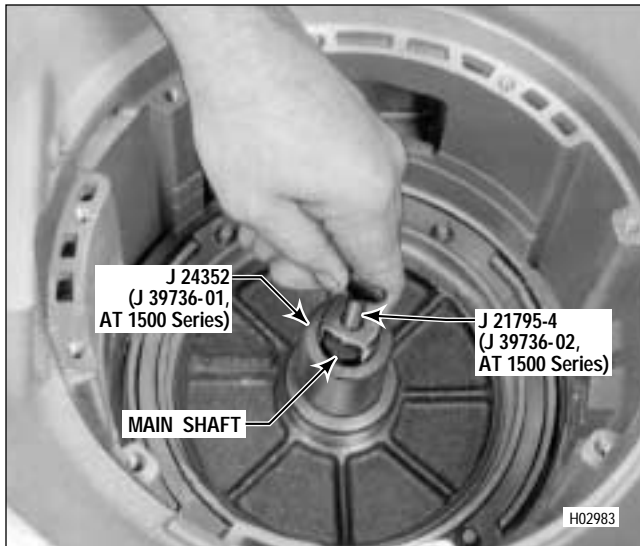

Figure 7-12. Installing Sun Gear Shaft Retainer
(1) Install the sun gear shaft retainer J 24352 for AT 500 Series or J 39736-01 for AT 1500 Series onto the transmission main shaft (Figure 7-12). Be sure retainer sleeve is seated on the sun gear shaft while tightening the thumb screw.
(1) Reposition the transmission, front upward. Carefully remove sun gear shaft retainer J 24352 or J 39736-01 (Figure 7-12) without moving the sun gear shaft.